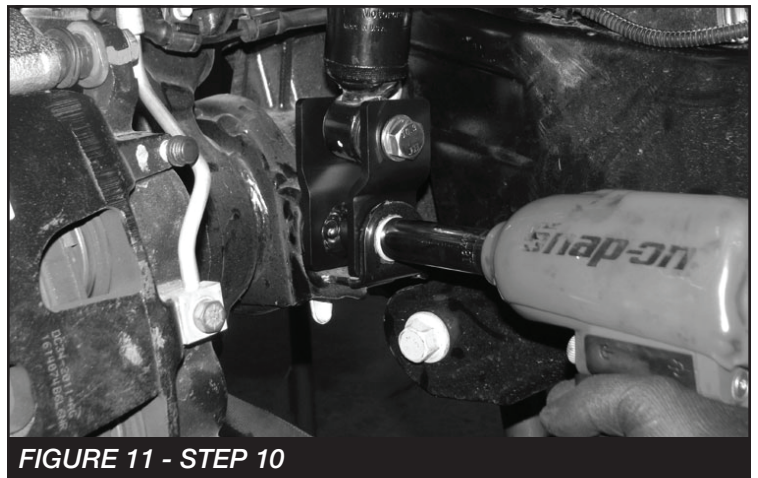

**FIGURE 9 - STEP 9**
9. Locate FT30580 (spring spacer) and FT30554 (spring isolator). Install the spacer and new isolator on top of the factory spring and factory upper isolator then install in to the truck. **SEE FIGURE 9.**